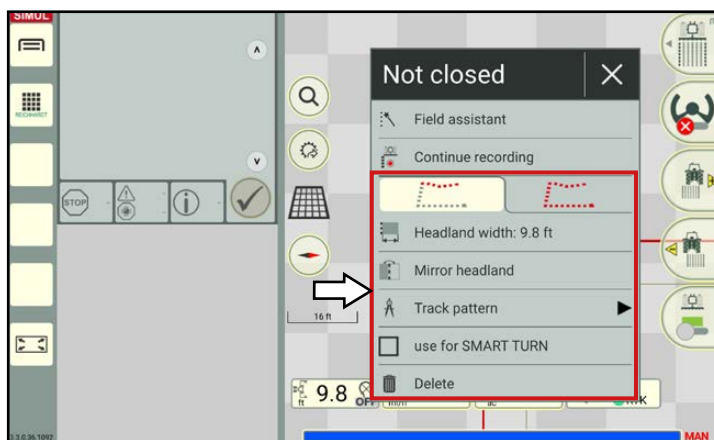

Fig. 202: Options for boundary line sections and the entire boundary line group of a boundary line that is not closed
- Options for boundary line sections and the entire boundary line group (see Fig. 202):
The selected area is highlighted yellow (see Fig. 202).